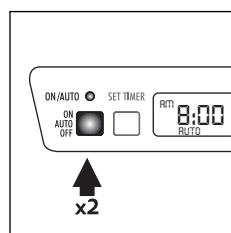

fig. 11
- Prepare the machine for making coffee. Press the ON/AUTO/OFF button twice (fig. 11). The ON/AUTO indicator light changes to green indicating the coffee maker is in operation: the display shows AUTO.